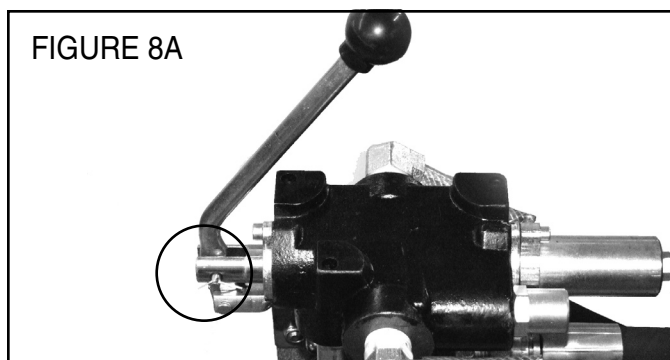

FIGURE 8A
8. **(U.S. Version)** Install hydraulic valve control lever. Secure with pin and cotter key. SEE FIGURE 8A.
(European Version) Install both hydraulic valve control levers. Secure with pin and cotter key. SEE FIGURE 8A.